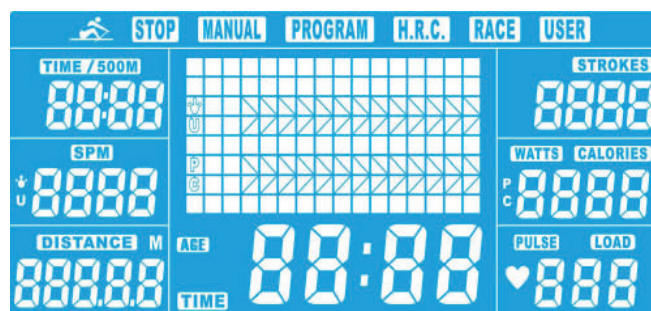

Figure 1
1. Assemble the rear supporting bracket set (13) to the sliding beam (19), using a fixing plate (95), three spring washers (74) and three allen bolts (87) - see figure 1.
All segments will be displayed on the screen (fig. 1). Now you will be taken to the user menu (USER).